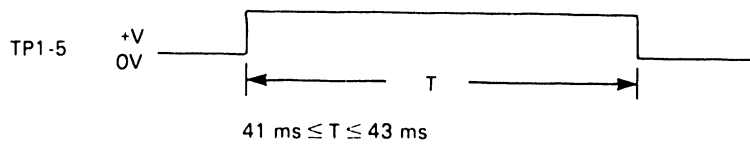

Figure 5-3 Seek Speed Waveform
5. Adjust potentiometer RV1 to achieve a seek start to on-cylinder time of 41 to 43 milliseconds (see Figure 5-3).